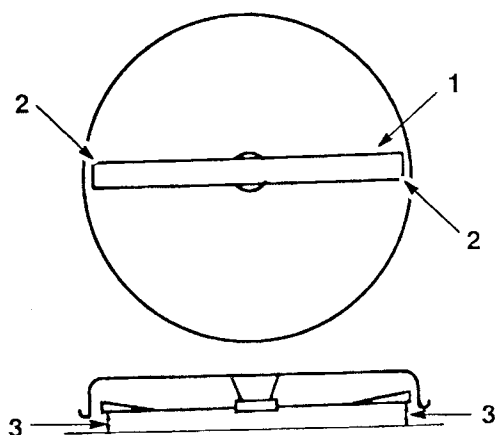

Figure 46
4. Carefully rotate blade(s) side to side (Fig. 46). Measure between the outside cutting edges and the flat surface (Fig. 46). If both measurements are not within  $\frac{3}{16}$ " (4.762mm), an adjustment is required; refer to steps 5 and 6.